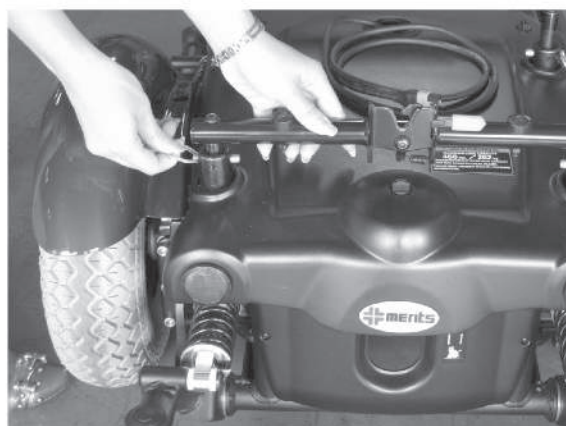

Fig D1
- (1) Take off the seat first.
- (2) Remove the retaining clips. (Fig D1)